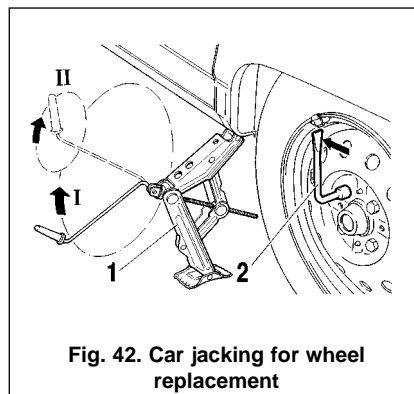

Fig. 42. Car jacking for wheel replacement
- slacken each nut of the affected wheel one turn using box wrench 2 (Fig.42);